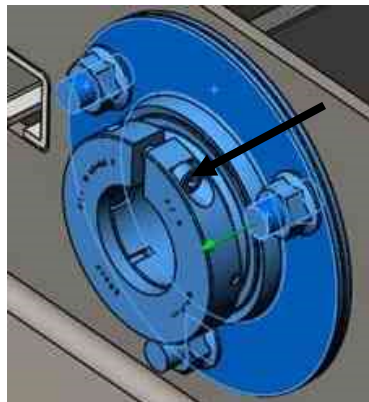

Figure 67
3. Install the bearings. Install the slider onto the shaft and the deck frame. Slide the collar on the bearing and tighten the set-screws on the collar to hold in place. Just tighten the screws enough to hold into place. DO NOT overtighten the set screws. Then tighten the Torx screw in the collar to 97 in.lbs. Figure 67